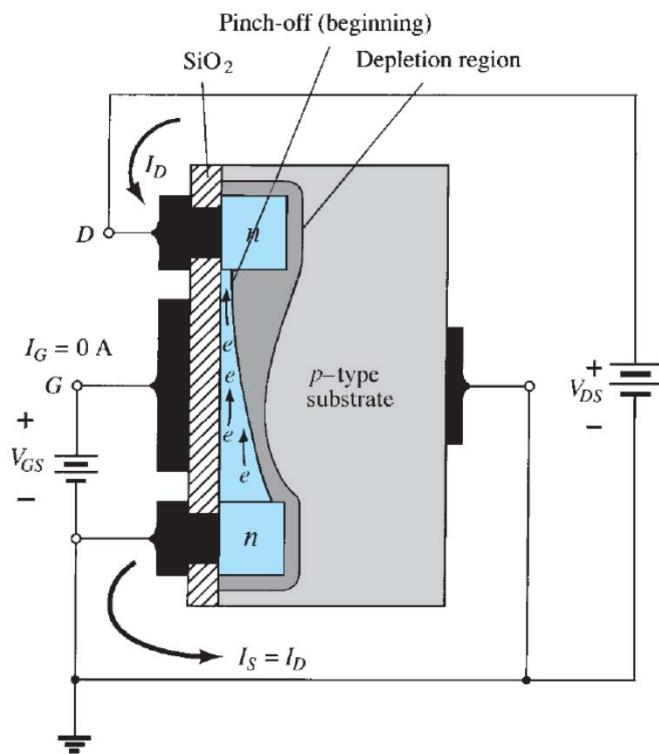

FIG. 6.34
- The leveling off of I_D is due to a pinching-off process depicted by the narrower channel at the drain end of the induced channel as shown in Fig. 6.34 .
The drain characteristics of Fig. 6.35 reveal that for the device of Fig. 6.34 with $V_{GS} = 8 \text{ V}$, saturation occurs at a level of $V_{DS} = 6 \text{ V}$. In fact, the saturation level for V_{DS} is related to the level of applied V_{GS} by
Obviously, therefore, for a fixed value of V_T , the higher the level of V_{GS} , the greater is the saturation level for V_{DS} , as shown in Fig. 6.34 by the locus of saturation levels.